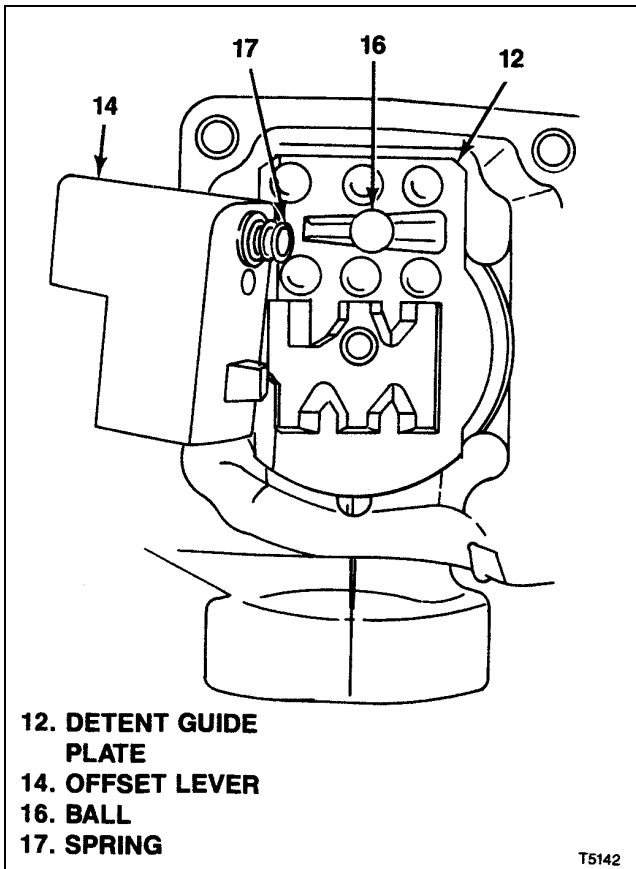

Figure 7-20. T5 STD Ball in 3rd-4th Position
- e. Lubricate detent guide plate (12) in extension (11A) or adapter (11B) with lithium grease. Position extension or adapter so that it easily can be picked up and installed on transmission.
- f. Position ball (16) in 3-4 position in detent guide plate (12) (see figure 7-20).
- g. Insert spring (17) in offset lever (14). Use petrolatum to hold in place.
- h. Position offset lever (14) (with spring) in extension (11A) or adapter (11B), engaging open end of spring (17) on ball (16) and push down on offset lever to compress spring slightly. Holding offset lever with one hand, pick up extension or adapter with the other and move parts into position at rear of transmission. Guide offset lever over end of shifter shaft (23) while moving extension or adapter up against rear of transmission case (106)-
- i. Install bolts (10) and torque to 23 lb-ft (30Nm).
- j. Align pin holes in offset lever k(14) and shifter shaft (3) and drive in roll pin (9).